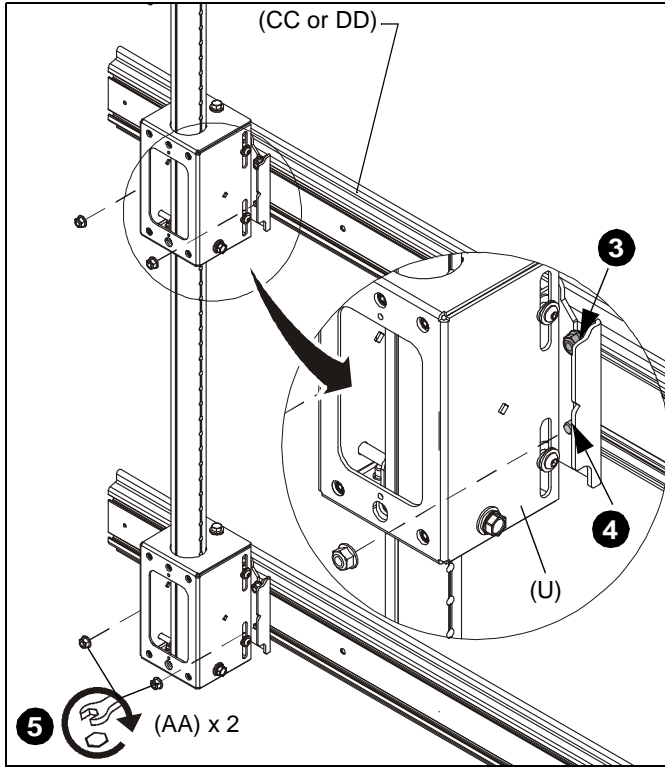

Figure 11
2. Partially fasten one 5/16" lock nut (AA) to each stud on upper T-slot nuts.
3. Slide top T-slot nuts (X) with attached lock nuts (AA) down into top openings on array head (U). (See Figure 11)
4. Slide studs on lower T-slot nuts (X) into lower slots on array head (U) while bringing mounting rail against array head (U).
5. Tighten array head to mounting rail by tightening lock nuts on upper T-slot nuts and adding two 5/16" lock nuts (AA) to lower T-slot nuts. (See Figure 11)